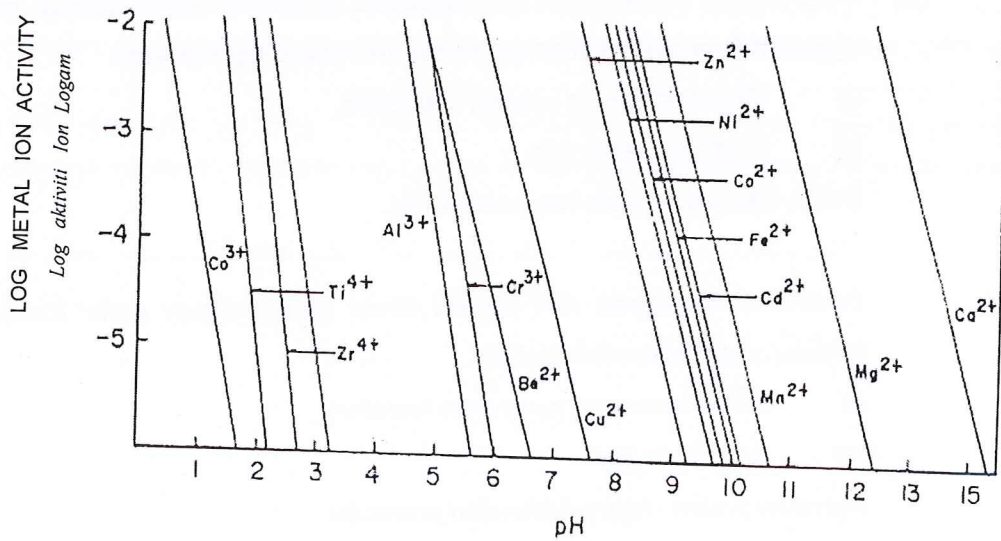

Figure 4: Precipitation diagram for metal hydroxide/solubility
- [b] Figure 4 shows the precipitation diagram for metal hydroxide. The diagram demonstrates the considerable range of pH over which the different metals precipitate as hydroxide. By using this diagram, give two types of information that you can get from this diagram and state the limitations.